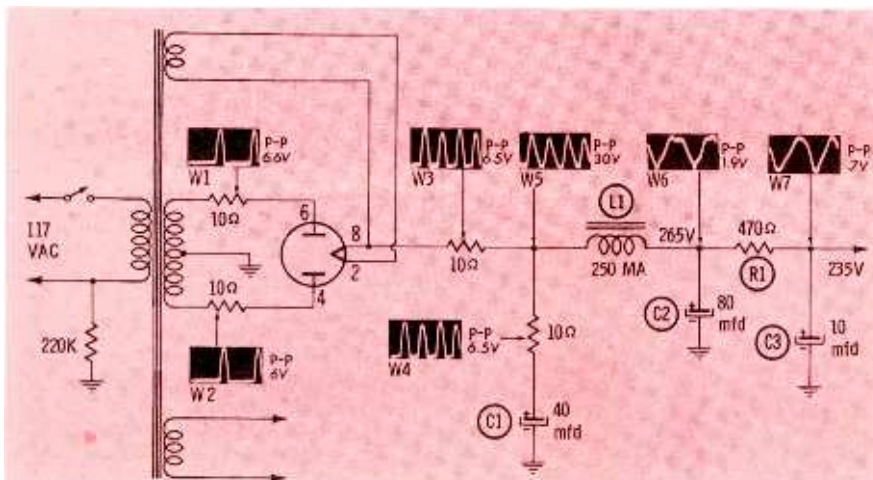

Fig. 1 Schematic of typical full-wave, transformer-operated DC power supply.
A typical full-wave transformer-type supply using a 5U4-type tube is diagrammed in Fig. 1. Basic action of the rectifier is most easily understood by studying a simplified circuit from which the filter components have been omitted, as in Fig. 2. When a 60-cps sine wave is induced in the transformer secondary, one plate of the rectifier tube will be positive during the first half cycle, and the associated section of the tube will conduct. During the next half cycle, the opposite plate will be positive and the other half of the tube will conduct. Since current in both cases will flow in the same direction through the common cathode circuit, the output voltage developed across
This description establishes the theoretical conduction pattern of the rectifier tube, but it does not indicate a practical condition. Some sort of LC or RC filter system is always employed, and its addition causes a great change in the output waveform of the rectifier. W3 in Fig. 1 is the conduction-current waveform of a typical full-wave supply, obtained by connecting the scope across a 10-ohm resistor placed in series with the output lead. In examining W3, two things are apparent: (1) The peaks are not of equal height. (2) There is a separation between the periods of conduction. The unequal peaks are the result of a slightly unbalanced condition between the halves of the rectifier tube or transformer second-